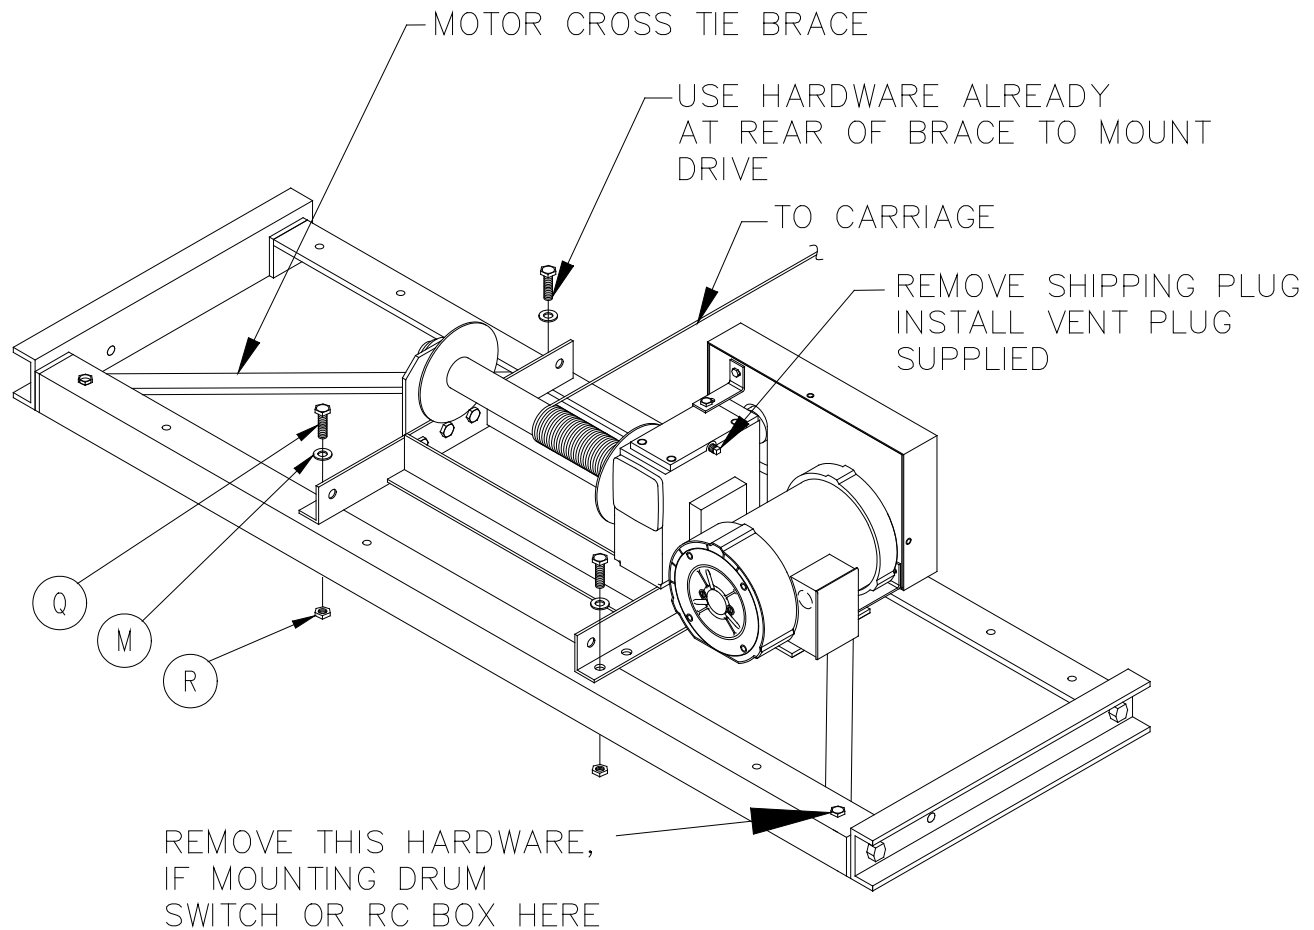

Figure 3-1.
1. **Refer to Figure 3-1.** Remove the drive unit from the carton by removing all applicable packaging hardware.